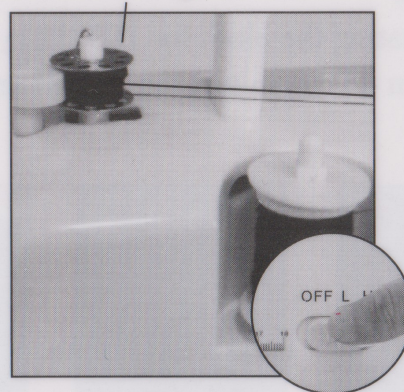

Fig. 15
5. Switch on the machine to start winding .(Fig. 15)